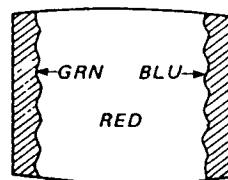

Fig. 3-2.
5. Move the deflection yoke back, and adjust the purity control so that **R** is in the center and **G** and **B** are at the sides, evenly. (Fig. 3-2.)